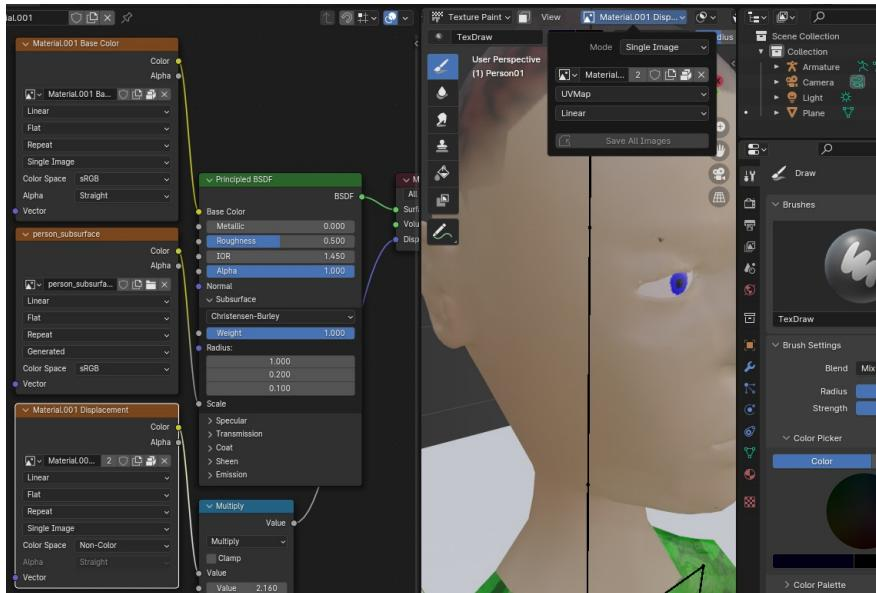

Figure 5-7 Painting a subsurface map texture
6. Change the color of the paint either using the tool controls in the header at the top of the editor, or in the Active Tool and Workspace settings tab. Most of the options are duplicated in the two places and many are the same as for sculpt brushes. However, before Blender 4 it was possible to specify Material or Single Image in the properties tab, but now this must be done in the header, see the top of Figure 5-7.
20. Change back to the Texture Paint preset using the menu at the top then click on the texture selector in the header, visible at the top of Figure 5-7. This should display the name of the new image texture you just created but sometimes Blender doesn’t refresh this straight away. Change the Mode from Material to **Single Image** and make sure person_displacement is selected. Draw with a fairly dark gray in the hair area.
22. The **Save All Images** button is now hidden inside the material or texture selector in the header, visible at the top of Figure 5-7. Click on that button now.
In reality the amount of subsurface scattering varies from lips to cheeks to chin so this would be a good instance where it would be useful to be able to paint a texture which can then be used in a more general way. This is the technique I referred to in the previous chapter for controlling the worn areas of the refrigerator rather than relying on the Geometry node pointiness. You can see the screen layout for the following instructions in Figure 5-7.
11. Connect the Color output to the Subsurface Scale input of the shader as shown in Figure 5-7.